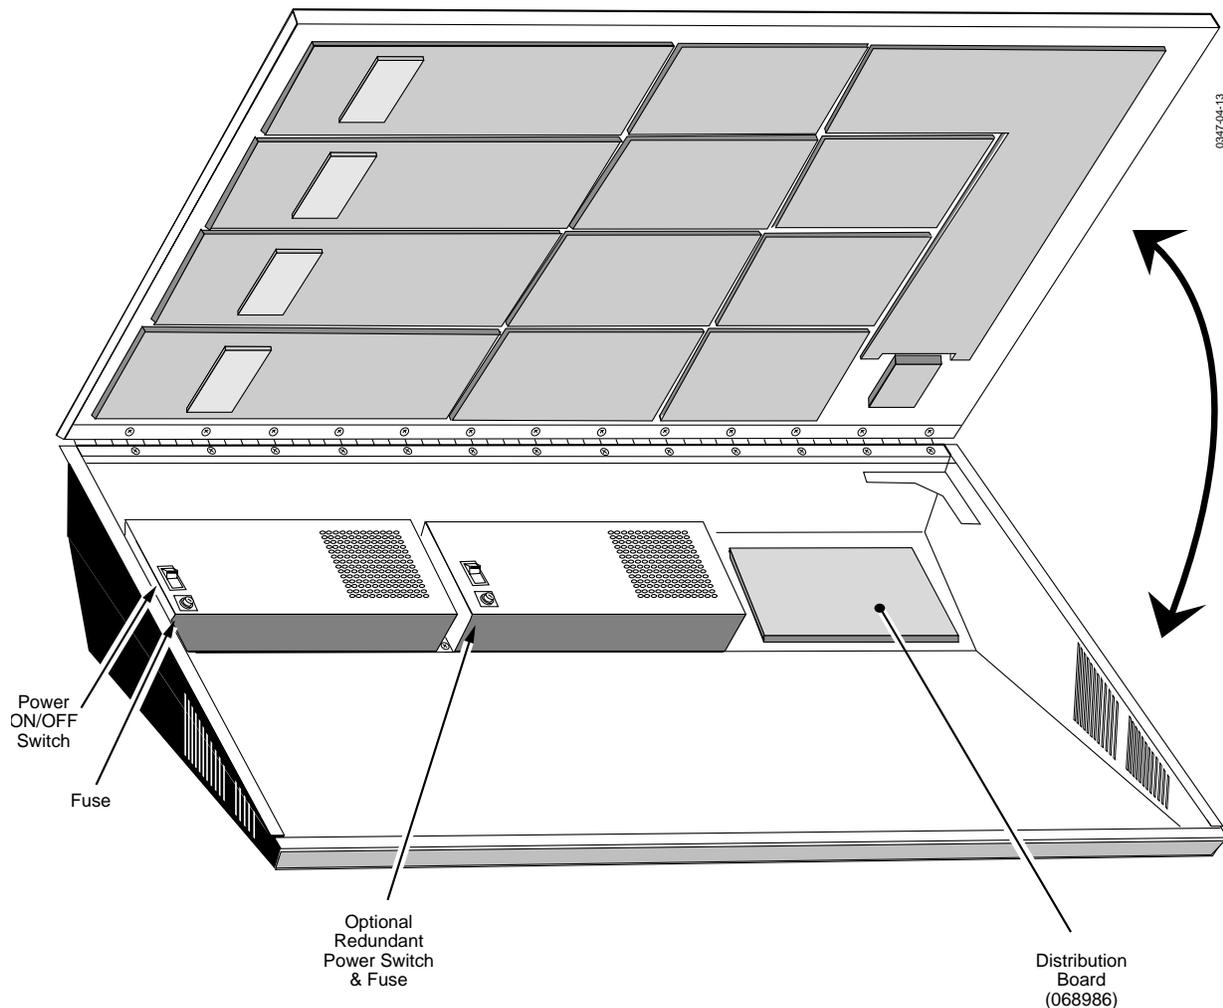

Figure 4-12. Model 3000-3 Control Panel AC Power Switch Location
1. Open the lower Control Panel tub and turn the AC power switch on the front of each supply to the OFF (Ø) position. See Figure 4-12